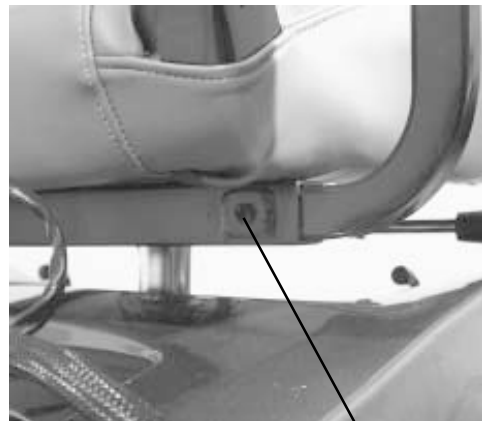

Figure 14. Armrest Width
1. Locate the two setscrews on the armrest receiver bracket. See figure 14.